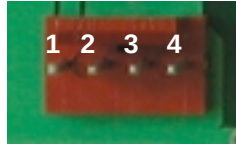

Figure 2-2 Power connector
4. Connect the power connector, making sure that the +5V goes to V+ as shown in Figure 2-2. Turn on the power: the display will power up and a blinking cursor will appear in the top left corner.